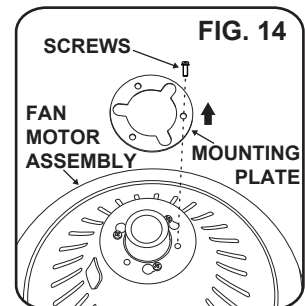

FIG. 14
Step 3. Remove the mounting plate from the coupling by removing three screws. (Fig. 14)